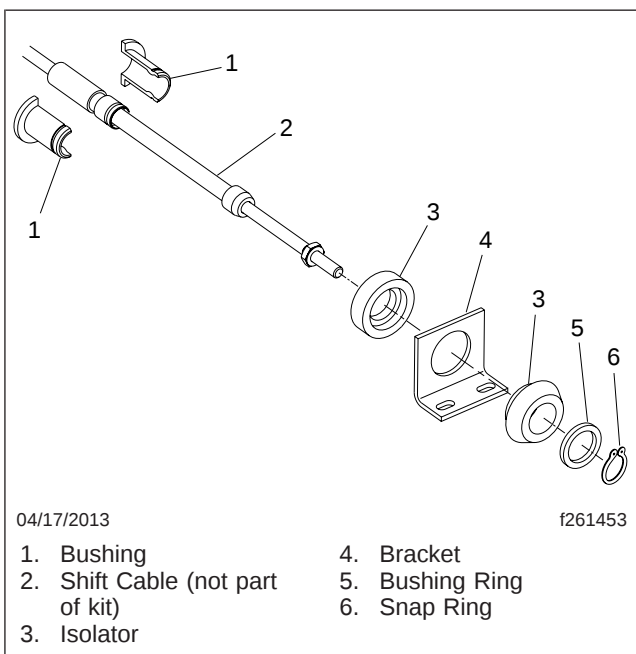
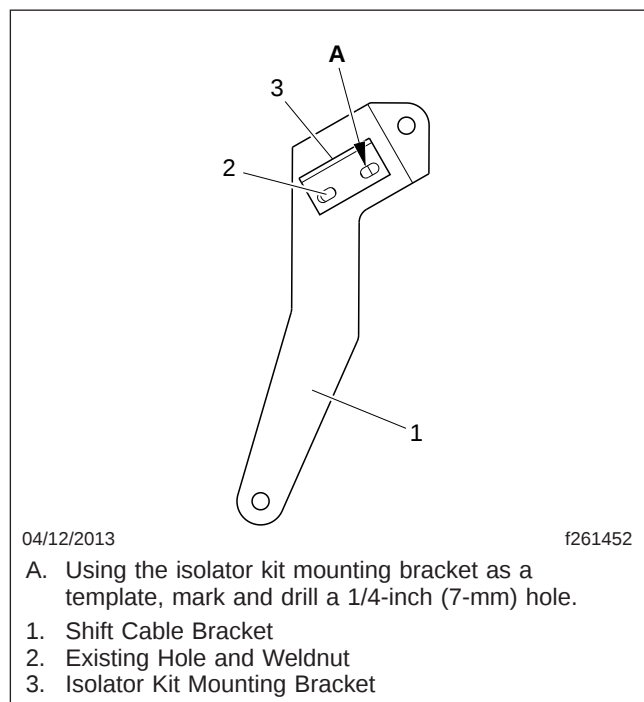

Fig. 2, Isolator Kit KPP 294201
Fig. 3, Locating Isolator Kit Bracket Holes
6. Using the isolator kit mounting bracket (**Fig. 2**, item 4) as a template, with one hole positioned over the existing hole in the cable bracket, mark and drill a 1/4-inch (7-mm) hole in the cable bracket, as shown in **Fig. 3**.